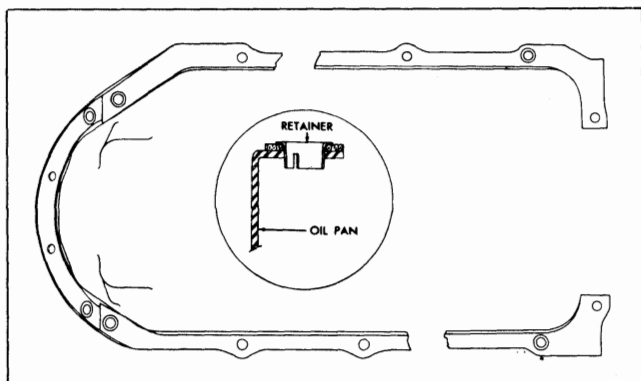

Fig. 6-51 Installing Oil Pan Gasket Retainers
1. Install new side gaskets on oil pan, using gasket retainers (Fig. 6-51).